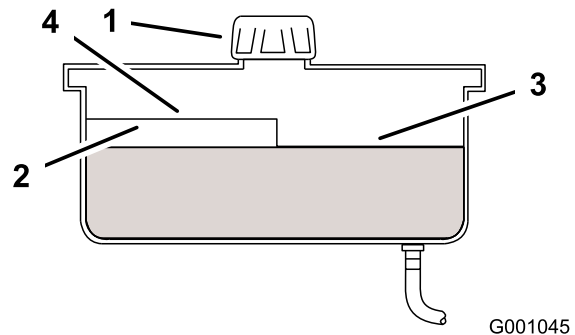

Figure 68
2. Clean the area around filler neck of hydraulic tank (Figure 68).
3. Remove the cap from the filler neck. Look inside to check if there is fluid in the reservoir (Figure 68).
Note: The fluid level should be to the top of the hot level of the baffle, when the fluid is hot (Figure 68).